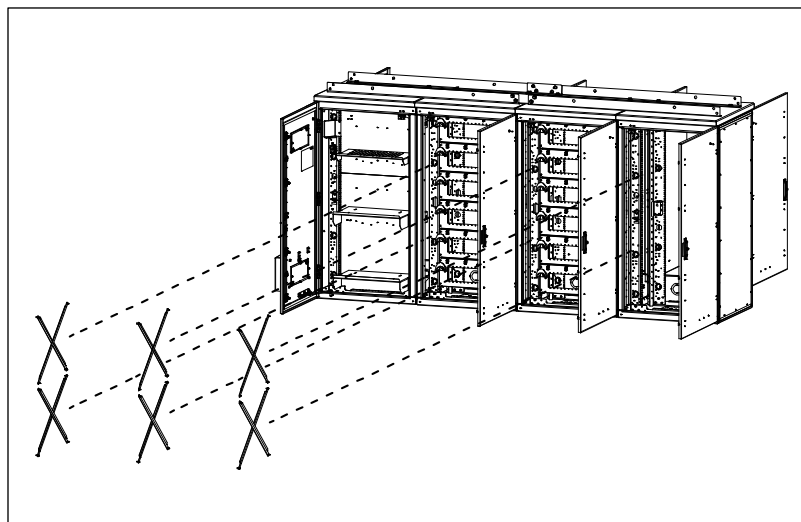

Figure 3 Remove Cross Braces
2. Remove the internal cross braces in between each bay by removing the nuts that hold the braces in place (Figure 3).